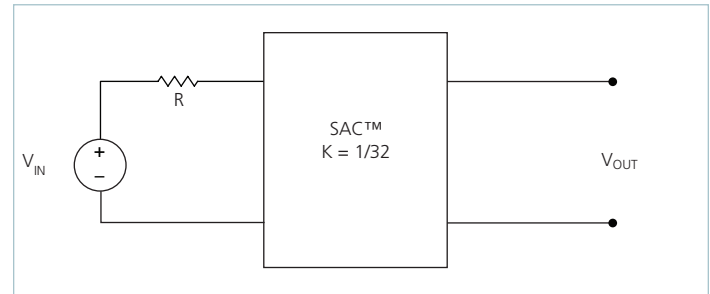

Figure 18 — $K = 1/32$ Sine Amplitude Converter™ with series input resistor
The use of DC voltage transformation provides additional interesting attributes. Assuming that $R_{OUT} = 0\Omega$ and $I_Q = 0A$, Eq. (3) now becomes Eq. (1) and is essentially load independent, resistor R is now placed in series with V_{IN} as shown in Figure 18.
Assuming that $R = 1\Omega$, the effective R as seen from the secondary side is $0.98m\Omega$, with $K = 1/32$ as shown in Figure 18.